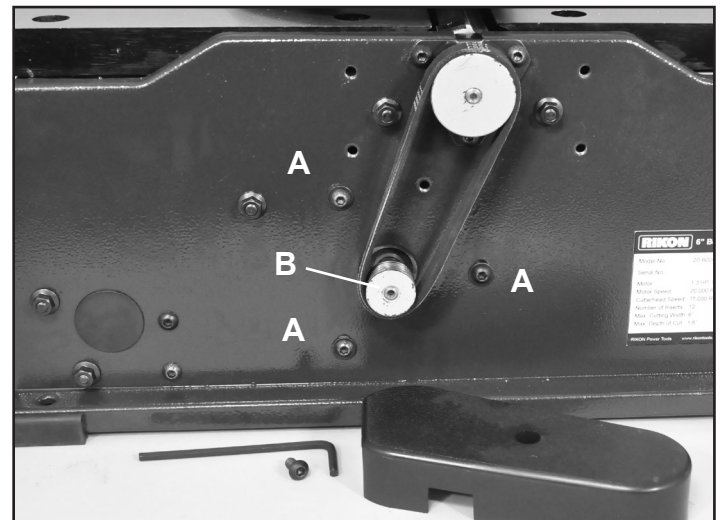

FIG. 29
- Loosen the 3 screws (FIG. 29, A), and push the lower motor pulley (B) upward.